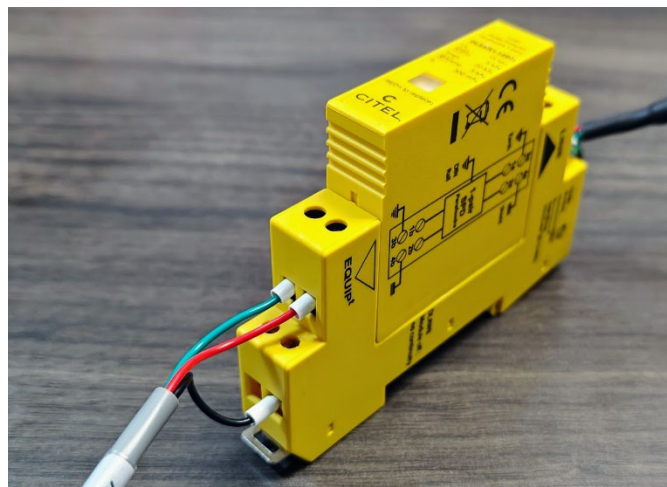

Figure 4 Wiring Diagram on the SPD
- a. On the EQUIP end, insert the black conductor of the 191F0234-10 cable into the terminal with the shield symbol (4b), the green conductor into the 1b terminal, and the red conductor into the 2b terminal (Figure 4).
- c. Insert the ground signal into the terminal with the shield symbol (4a), the TMU TX signal into the 1a terminal, and the TMU RX signal into the 2a terminal (Figure 4). The table below shows the pinout to connect to the TMU.